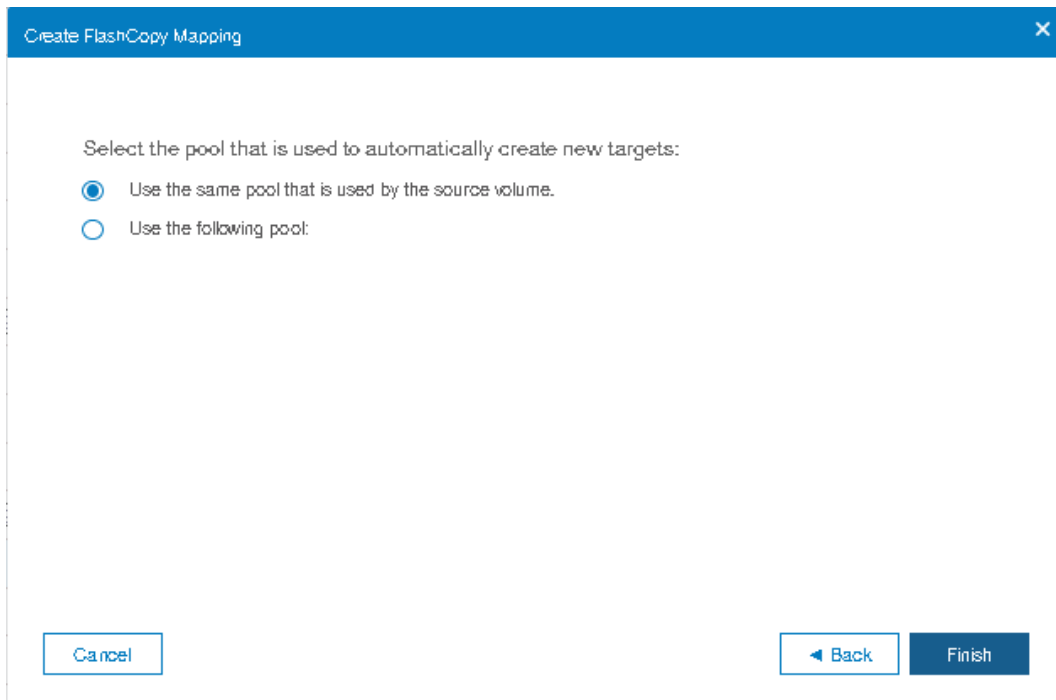

Figure 10-28 Pool selection
7. Click **Next** and you will be asked to select the desired storage pool in which the new FlashCopy target volume needs to be created as shown in Figure 10-28.